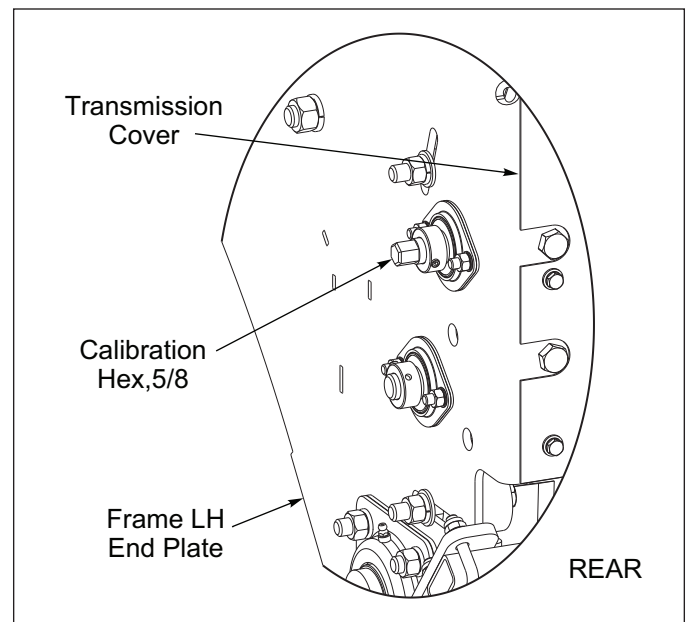

Figure 3-12: Calibration Hex
6. Turn 5/8 Calibration Hex on the outside of the transmission 62 revolutions Counterclockwise (CCW) based on operator standing beside the seeder facing the Calibration Hex. **See Figure 3-12.** Reference, the shaft with the hex rotates 620 revolutions per acre seeded.
6. Turn 5/8 Calibration Hex on the outside of the transmission 62 revolutions Counterclockwise (CCW) based on operator standing beside the seeder facing the Calibration Hex. **See Figure 3-12.** *Reference, the shaft with the hex rotates 620 revolutions per acre seeded.*